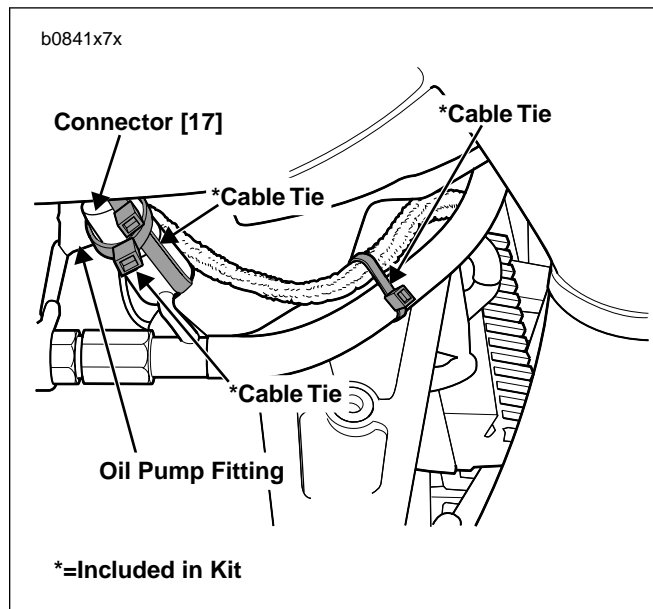

Figure 8. Cable Tie Locations
- c. See Figure 8. Mate connector [17] halves and secure with cable tie.
- e. See Figure 8. Push connector [17] behind gearcase cover and secure connector [17] to oil pump fitting with cable tie.
- f. See Figure 8. Secure voltage regulator wire harness to oil line and oil pressure switch harness with cable tie.